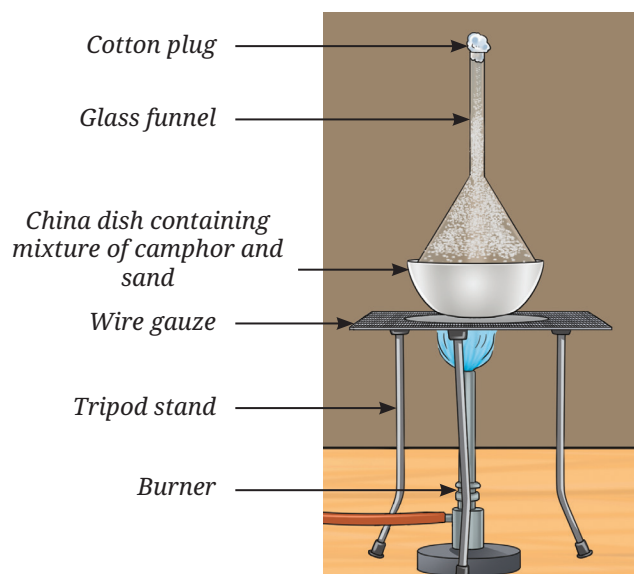

Fig. 5.17: Sublimation of camphor
3. Keep this funnel inverted on the china dish and set up the apparatus as shown in Fig. 5.17.